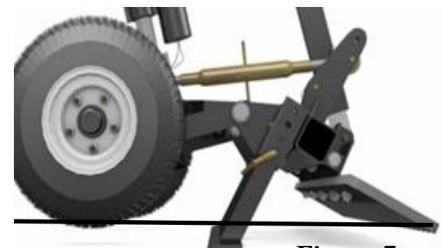

Figure 7
- 6) **Adjusting the finish rake** – the finish rake will be adjusted with the Rascal in use. Take the Rascal to the area where it will be used. Raise the wheels up to allow the scarifier's/profile blade(s) to enter into the surface. Pull the Rascal forward about 2-3 foot and come to a slow stop. Adjust the finish rake so that it rests firmly on the surface of the material. Adjust the finish rake to make more or less contact as needed to get the desired finish in the arena. For reference refer to figure 7.